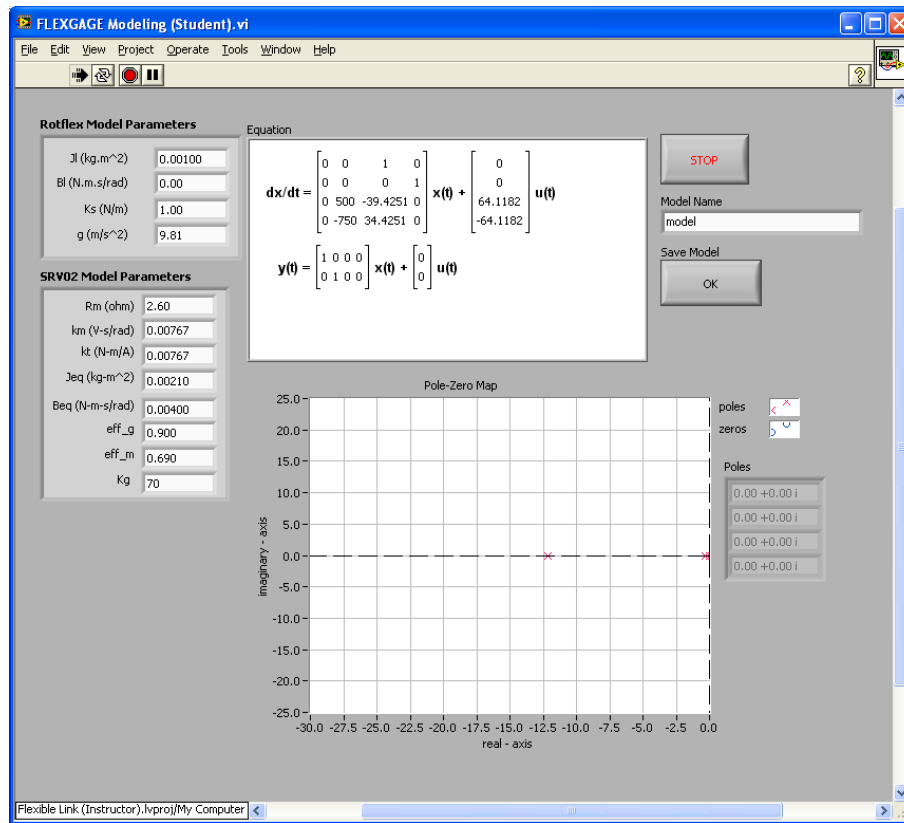

Figure 2.5: FLEXGAGE Modeling VI used to generate state-space model
The *FLEXGAGE Modeling VI* is shown running with default parameters in Figure 2.5. It is used to generate the state-space model of the FLEXGAGE based on the entered model parameters.
1. In the *Flexible Link (Student).lvproj*, open the *FLEXGAGE Modeling (Student).vi* found in the *Control Design and Simulation* folder. The front panel of the VI is depicted in Figure 2.5.